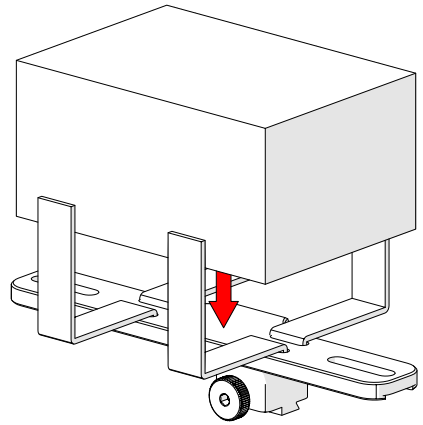

Fig. 295 - Place preamp and wrap velcro
2. Centre and place the preamp on the bracket wrapping the velcro around the preamp (*Fig. 295*).